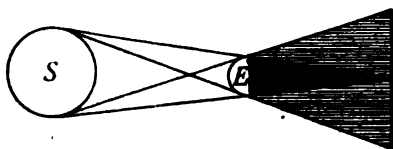

FIG. 348—Character of the earth's shadow.
**356. Eclipses.**—Since the sun is a very large object the shadow cast by the earth contains both umbra and penumbra. (See Fig. 348.) When the moon passes into the